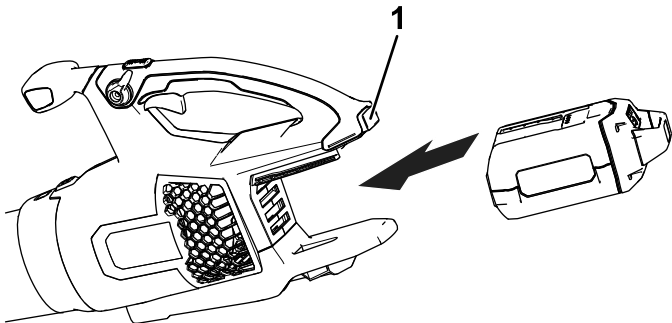

Figure 6
2. Align the cavity on the battery pack with the tongue in the handle housing (Figure 6).